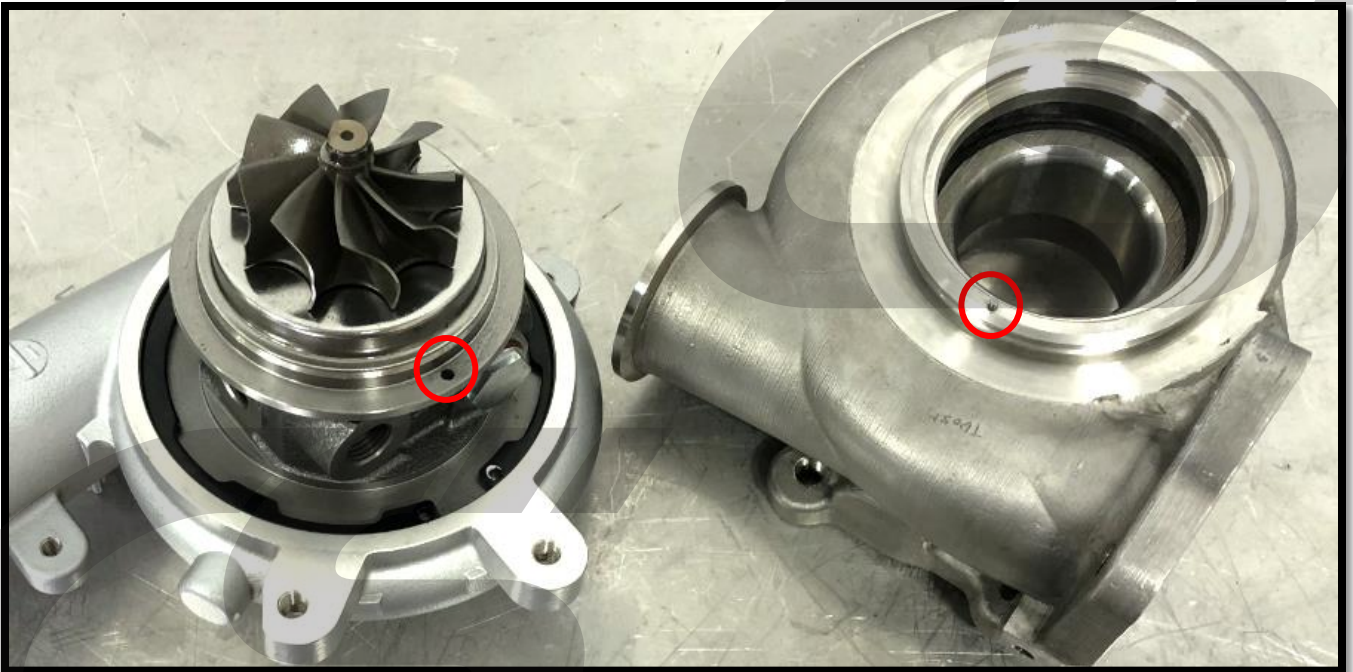

Figure 3a
- a) Set your CorkSport EWG housing on the downpipe flange as shown in **Figure 3a**.
- b) Note the small "peg" on the turbine housing. This will align with a small hole in the CHRA to ensure correct clocking of your turbocharger. Peg and hole shown **circled in red** in **Figure 3a**.